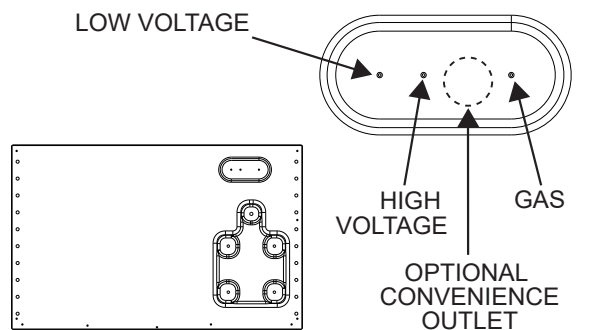

Fig. 1 - 3 - 6 Ton Basepan
Each unit is equipped with a raised (embossed) surface in the basepan. This area is located in the compressor compartment (outdoor section) of the unit (see Figure 1). The embossment of the basepan contains three (3) dimples for locating cutouts. Holes can be field cut in the embossed surface so that high voltage power, control wires, and gas connection can be routed through the roof curb basepan.